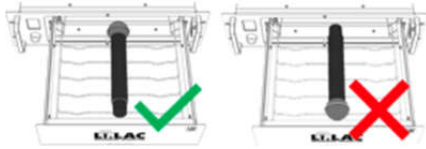

Fig. 3a
- Place microphones inside drawer with the head of the microphone facing the marking (Fig .3a and 3b).